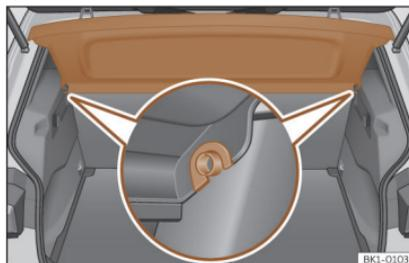

Fig. 135 In the luggage compartment: removing and fitting the shelf.
- Remove the rear shelf from the side supports»» **Fig. 135** by pulling it upwards and then take it out.
- Insert the cover horizontally so that the “recess” fits onto the axis of the supports »» **Fig. 135** and press down until it engages.